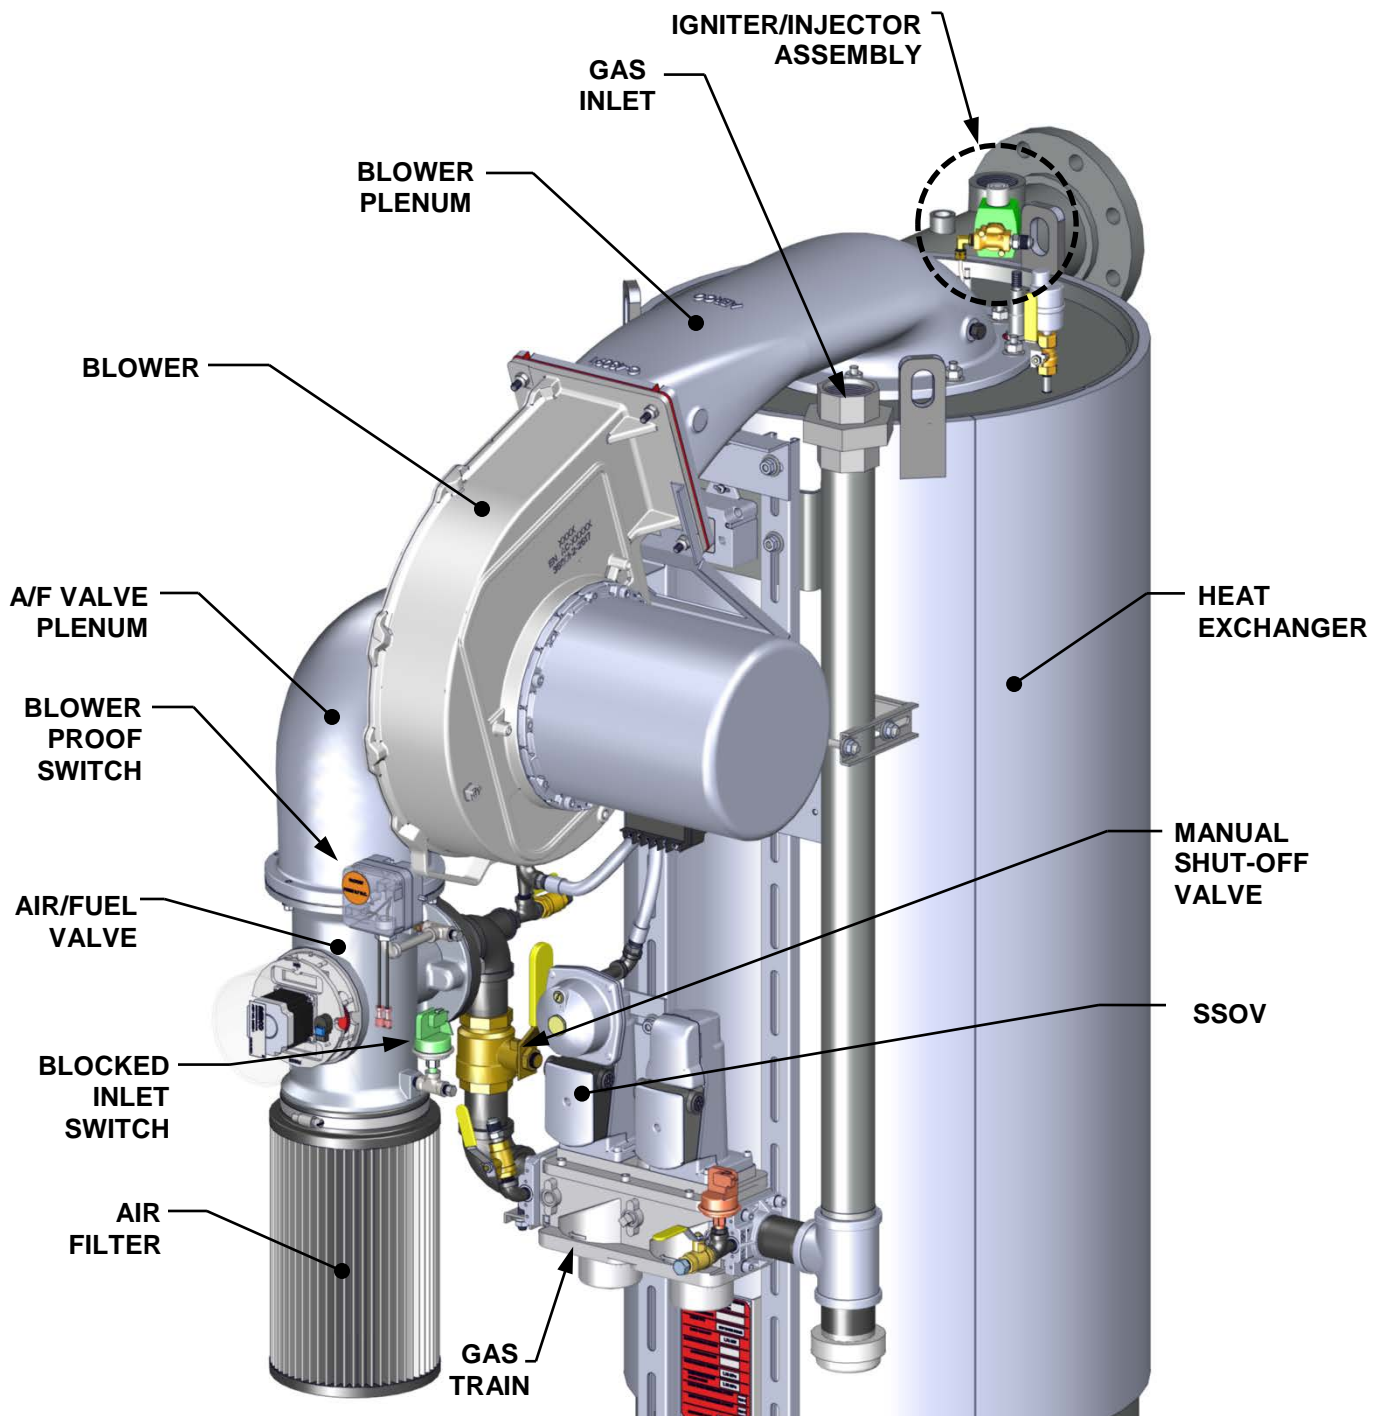

Figure 6-4: Bare Heating Boiler – Partial View (BMK 2500 Shown)
3. Close the manual gas shutoff valve located between the Safety Shut-Off Valve (SSOV) and the Air/Fuel Valve (see Figure 6-4).
8. Once flame is proven, close the manual gas valve located between the SSOV (Figure 6-4) and the Air/Fuel Valve.
The BMK 2500 bare boiler image in Figure 6-4 may be used to refer to the BMK 3000 model as well. Both units are virtually identical except for the position of the **High Gas Pressure** switch on the gas train and the burner size.
These tests check the operation of the Blower Proof switch and Blocked Inlet switch shown in Figure 6-4.
2. Remove the air filter (see Figure 6-4, above).